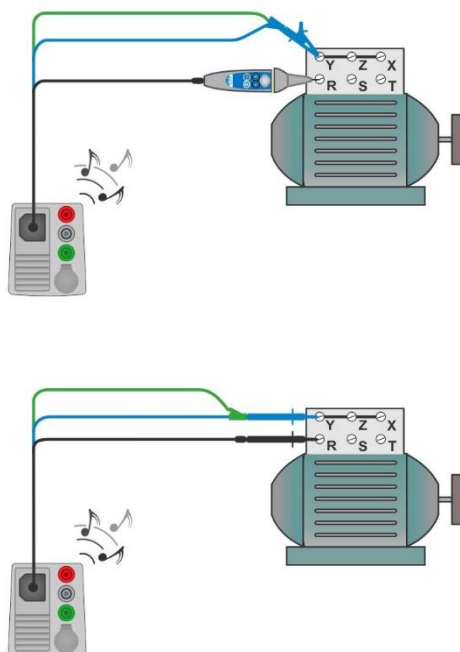

Figure 7.28: Tip commander and 3-wire test lead applications
- › Connect test leads to device under test, see **Figure 7.28**.